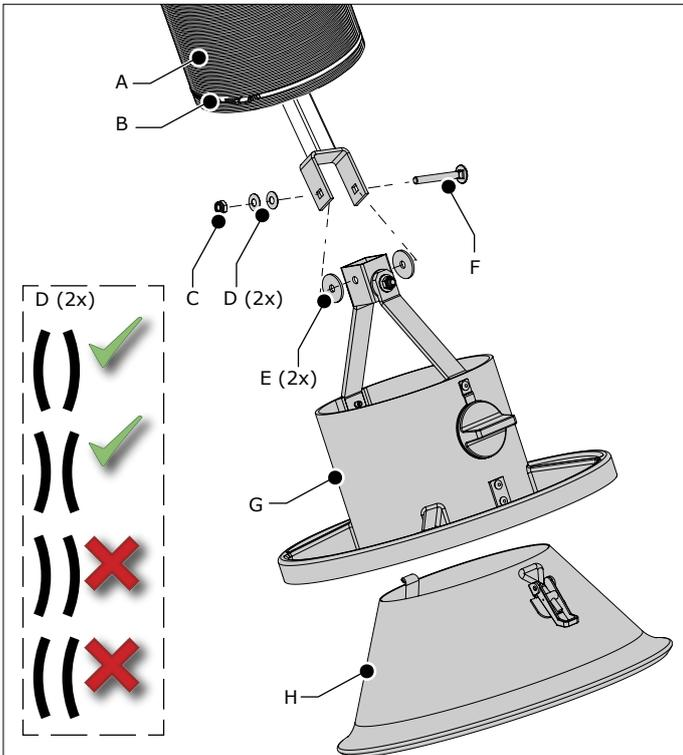

Fig. 4.3 Hood mounting (hose tube arm)
*Hose tube arm (Economy Arm): refer to Fig. 4.3*